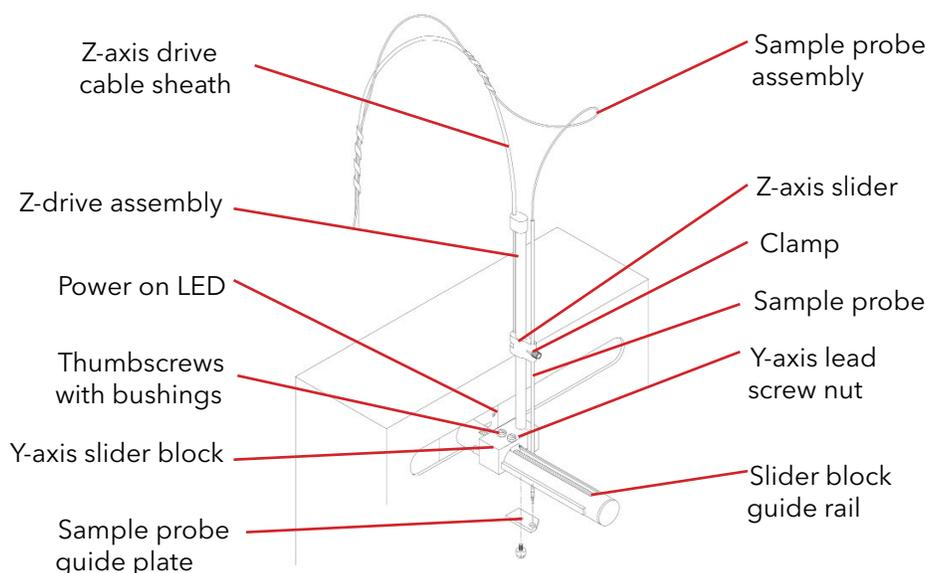

Figure 4.1. Z-Drive Assembly
Attach the Z-drive assembly (PN 323158) to the Autosampler arm to allow movement and function of the sample probe. Figure 4.1 illustrates the Z-drive assembly components.
1. Install the clamp in the slot on the Z-axis slider (Figure 4.1).
2. Install the sample probe through the slider block and push through the clamp (Figure 4.1).
5. Tighten the clamp. Position the clamp as illustrated in Figure 4.1.
1. Adjust the Z-axis slider (with attached sample probe) so the slider is approximately 3 mm below the top of Z-axis drive (Figure 4.1).